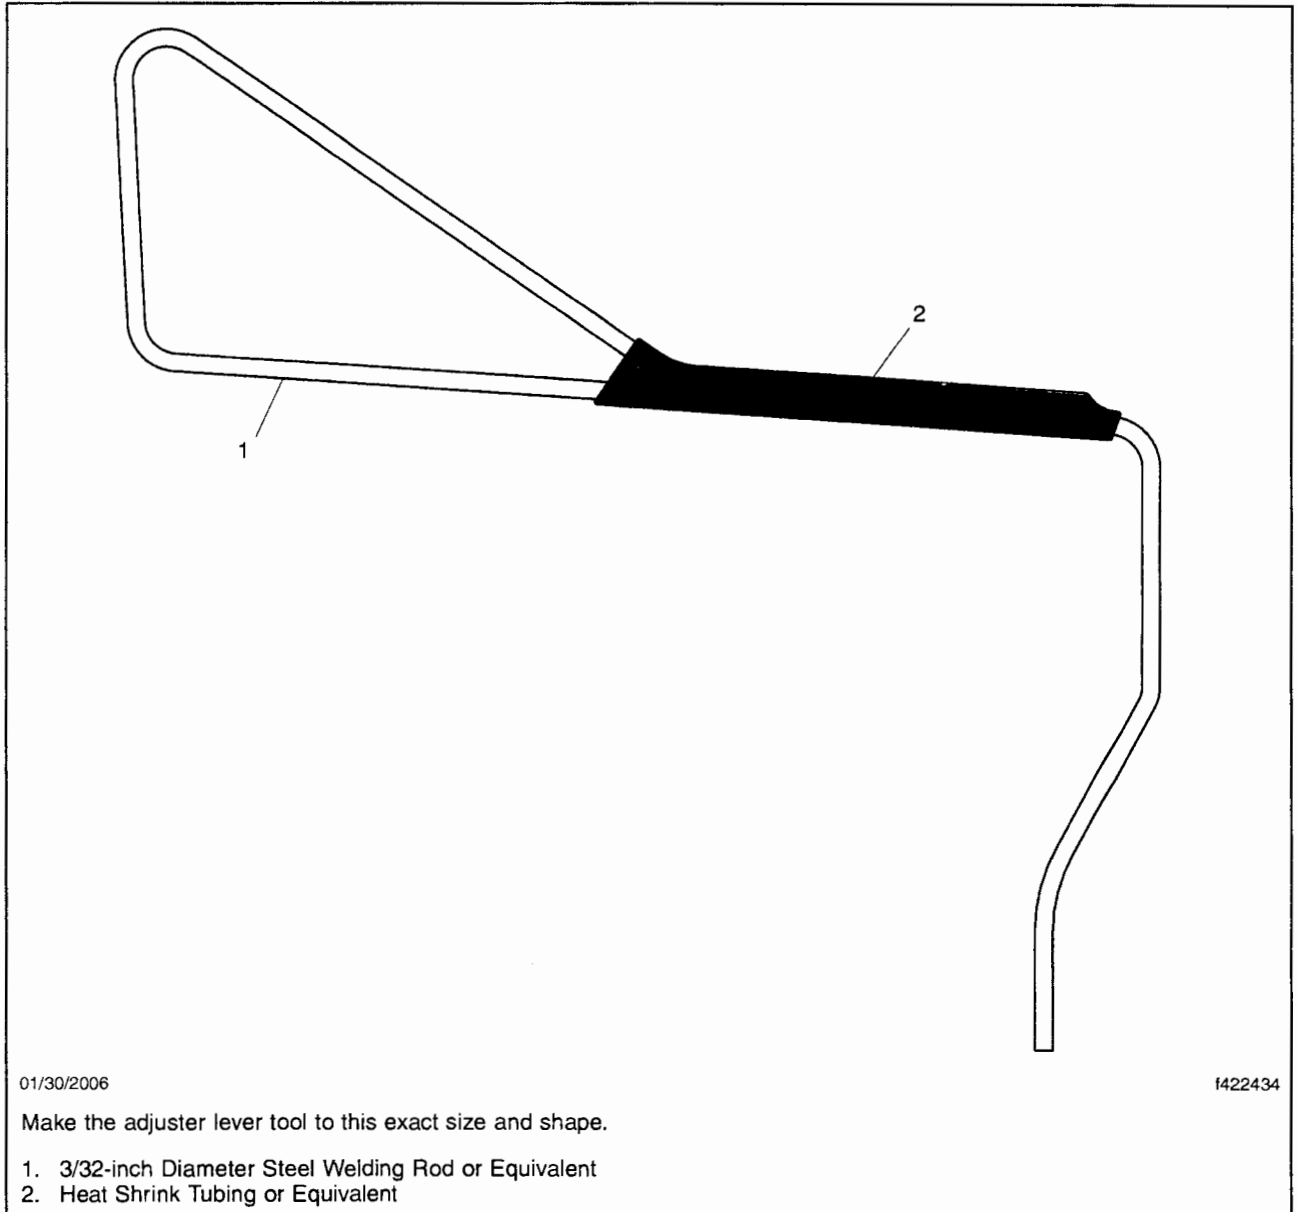

Fig. 1, Brake Adjuster Level Tool
3. Make the Bosch adjuster-lever tool. It should be exactly the shape and dimensions shown in **Fig. 1**.